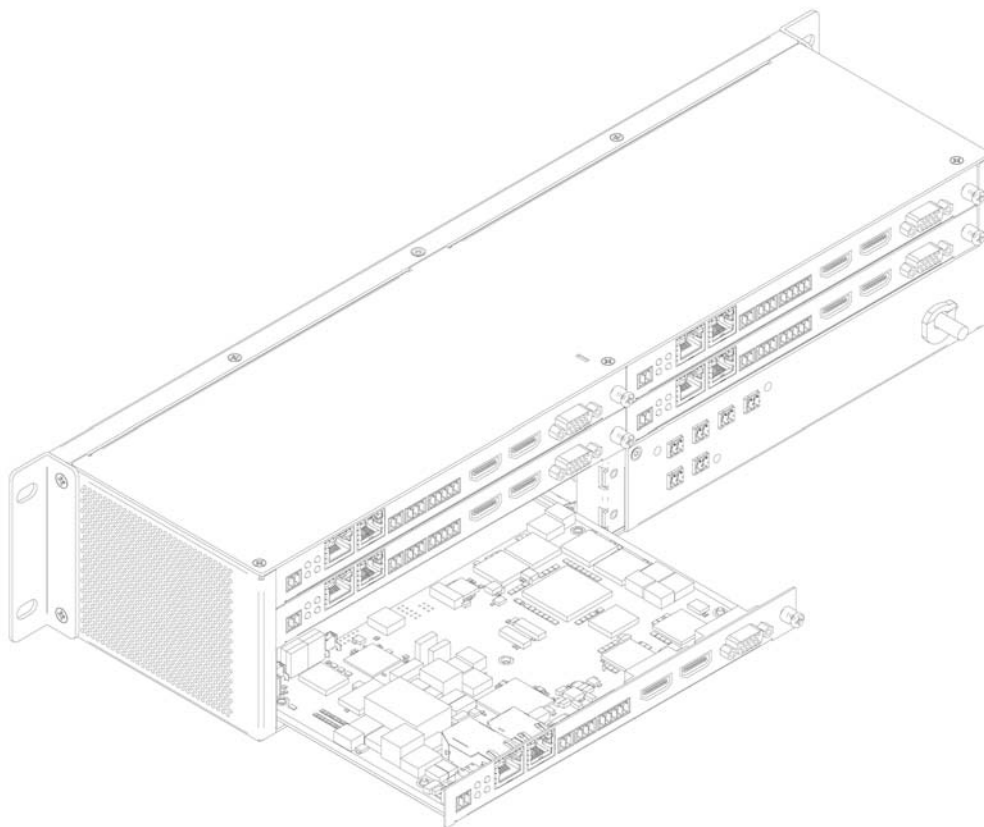

FIG. 7 Rack Mounting Cards
1. Gently slide the card into cage slot. Make sure the card is properly aligned with guides. The card's front LED indicators should align with holes in the cage's faceplate. See Figure 7.